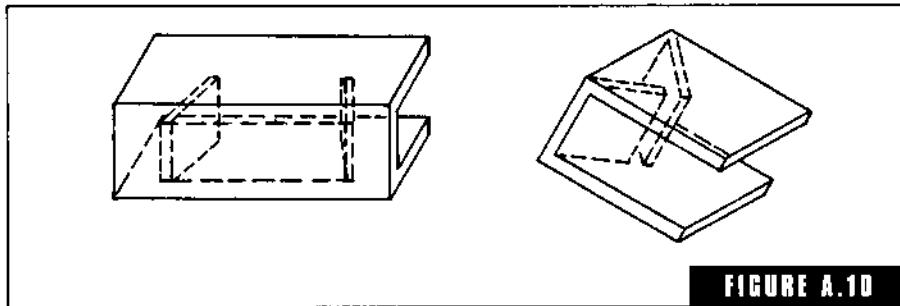

FIGURE A.10
**angle stem chaplet** A sheet metal chaplet with an open design to permit an adequate flow of molten metal through the chaplet (Fig. A-10). Insures proper burning in.